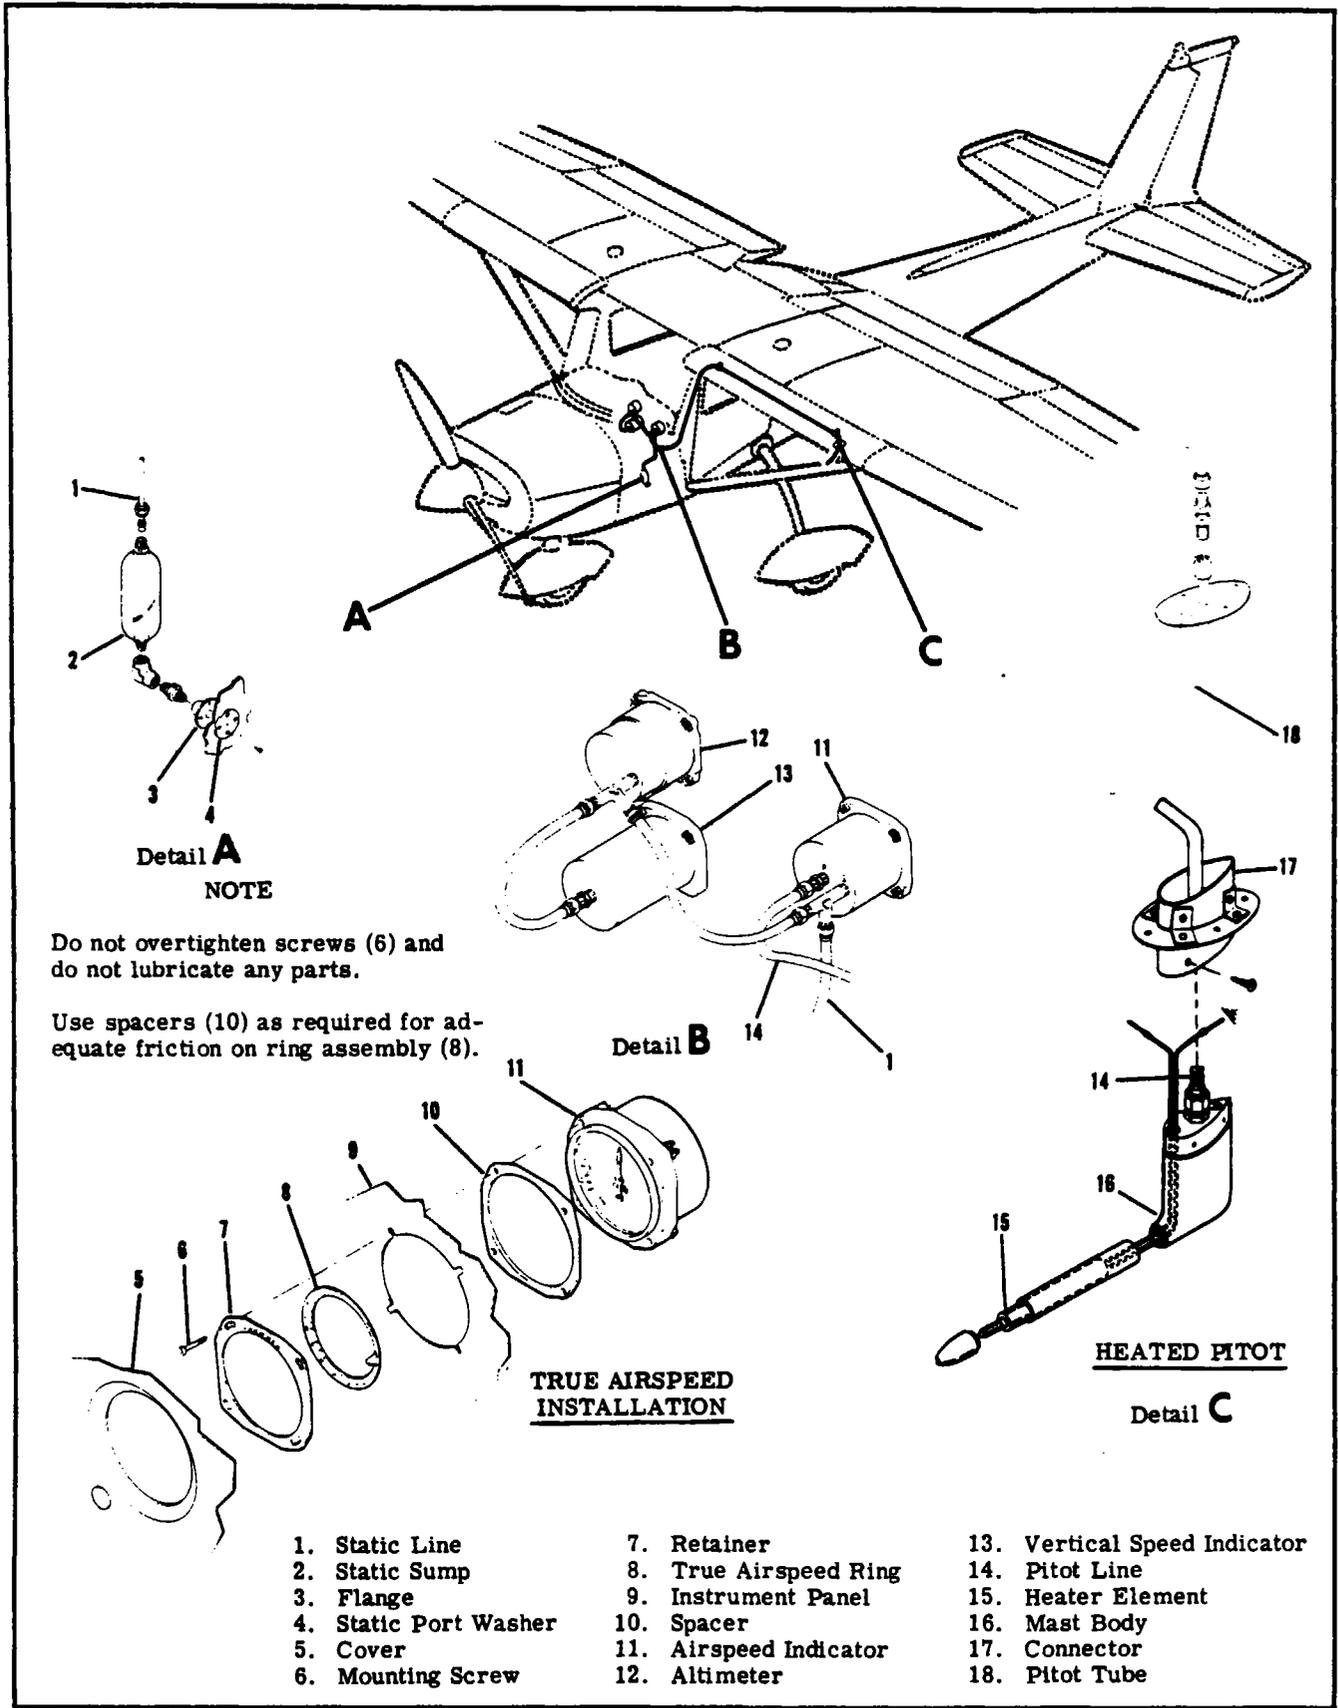
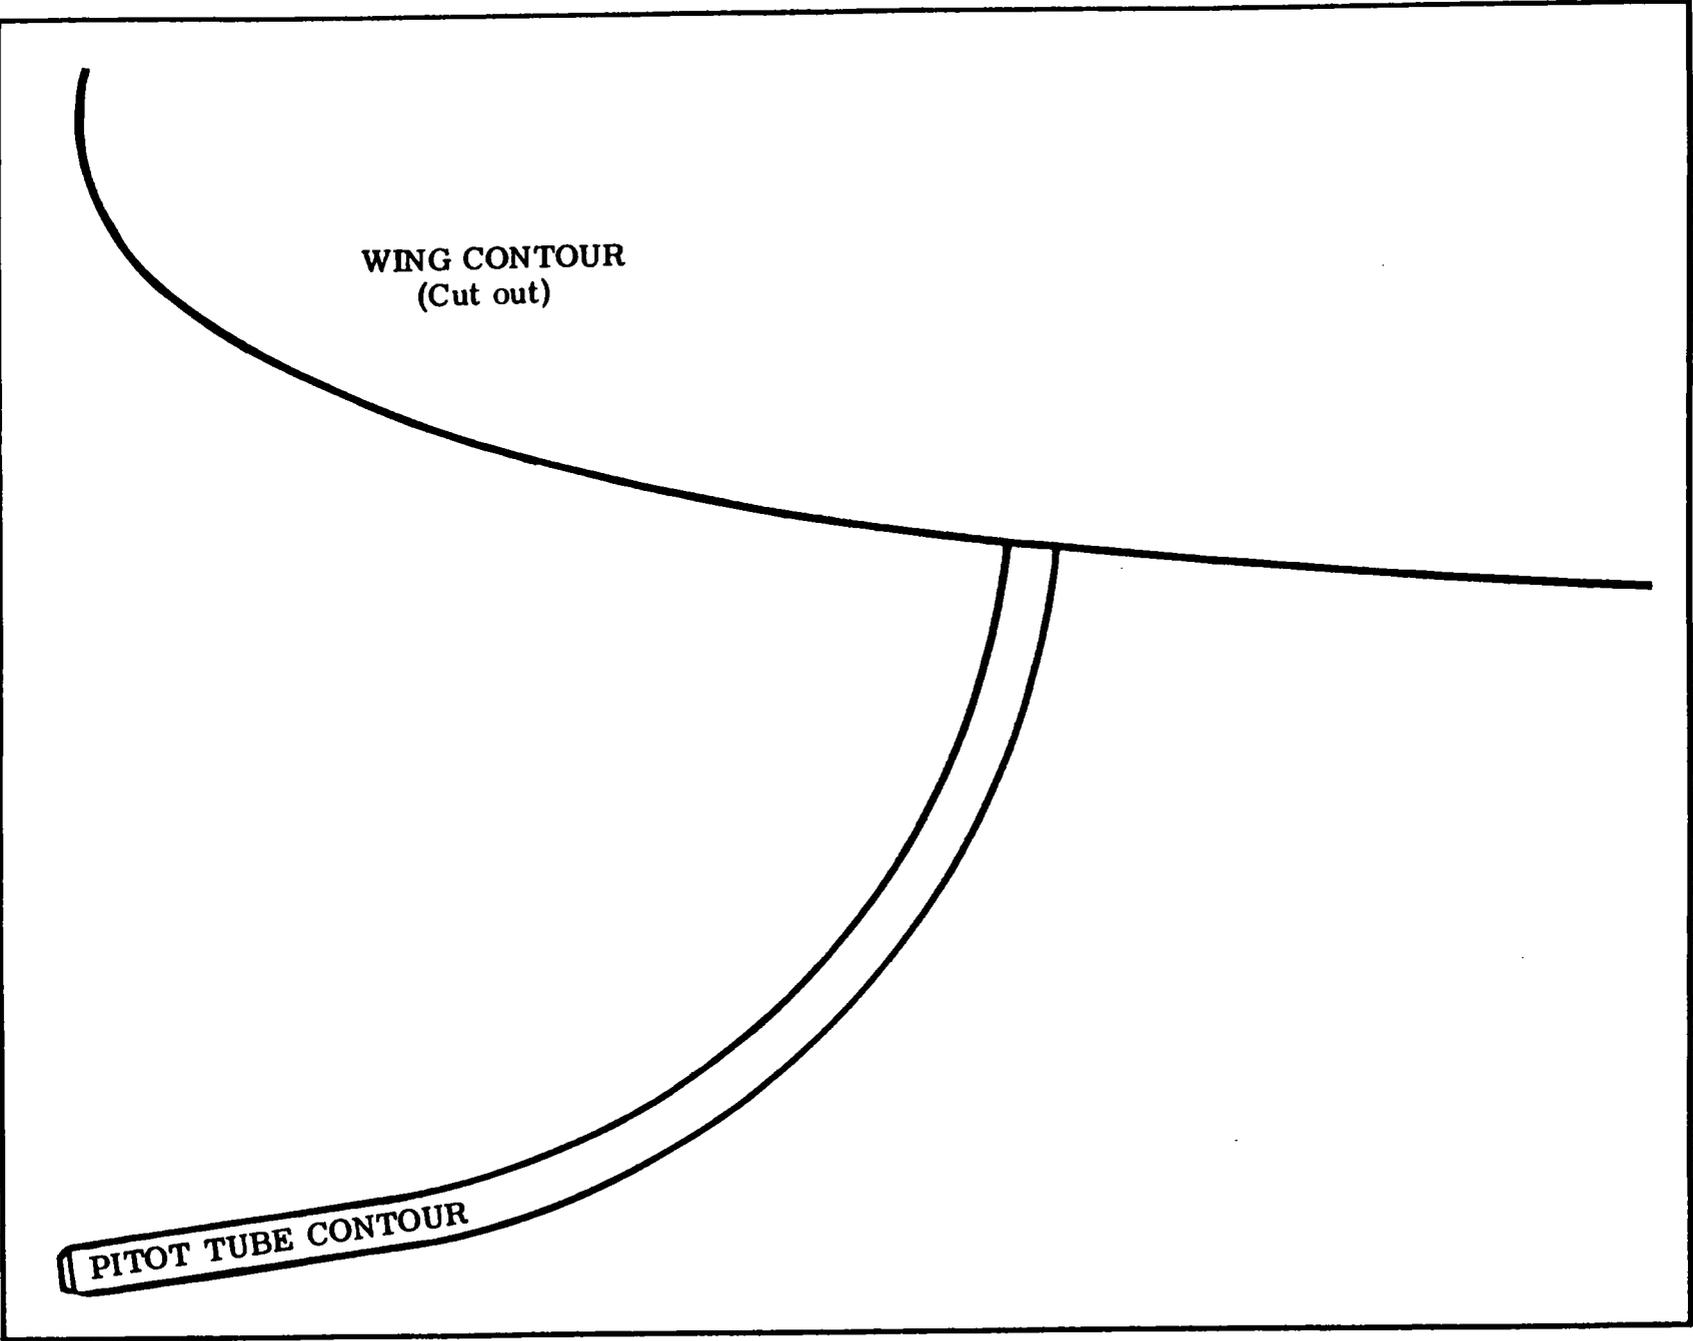

Figure 15-2. Pitot-Static Systems
Figure 15-4. Pitot Tube Alignment Template
15-10. PITOT AND STATIC SYSTEMS. (Refer to figure 15-2.)
15-16. **REMOVAL AND INSTALLATION OF COMPONENTS.** (Refer to figure 15-2.) To remove pitot mast remove four mounting screws on side of connector (17) and pull mast out of connector far enough to disconnect pitot line (14). Electrical connections to heater assembly (if installed) may be disconnected through wing access opening just in-board of mast. Pitot and static lines are removed in the usual manner, after removing wing access plates, lower wing fairing strip and upholstery as required. Installation of tubing will be simpler if a guide wire is drawn in as tubing is removed from wing. The tubing may be removed intact by drawing it out through cabin and right door. When replacing fittings of pitot and static pressure lines, use anti-seize compound sparingly on male threads of both metal and plastic connections. Avoid excess compound which might enter lines. Tighten connections firmly, but avoid overtightening and distorting fittings. If twisting of plastic tubing is encountered when tightening fittings, VV-P-236 (USP Petrolatum), may be applied sparingly between tubing and fittings.
15-18. TRUE AIRSPEED INDICATOR. A true airspeed indicator may be installed. This indicator, equipped with a conversion ring, may be rotated until pressure altitude is aligned with outside air temperature, then airspeed indicated on the instrument is read as true airspeed on the adjustable ring. Refer to figure 15-2 for removal and installation. Upon installation, before tightening mounting screws (6), calibrate instrument as follows: Rotate ring (8) until 120 mph on the adjustable ring aligns with 120 mph on the indicator. Holding this setting, move retainer (7) until
15-23. PITOT TUBE ALIGNMENT. (Refer to figure 15-2.) For correct airspeed indication pitot tube (18) must be properly aligned. Open end of tube must be perpendicular to longitudinal axis of aircraft. A template like the one shown in figure 15-4 will prove the most convenient means of checking alignment. Prior to using template, check that pitot tube parallels row of rivets just outboard of tube. A straightedge may be placed along row of rivets to check the alignment. The template fits over the wing leading edge and should conform to the illustration. The illustration has been drawn carefully to actual size and may be traced directly on a piece of carbon paper between the printed page and the template material, then trace contours.